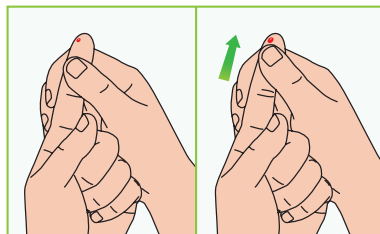

Figure 92
**7** Holding the lancing device against the side of the finger to be lanced, press the release button and then put down the lancing device. Massage forward slowly from the base of your finger to the tip to increase the sample size (Figure 92).